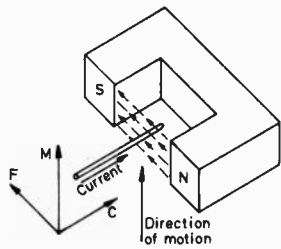

Fig. 1 (left): Fleming's left-hand rule.
To return to the theory (sorry!), the basis of all electric motors is that a conductor carrying a current will try to move when positioned in a magnetic field. Its direction of movement depends on the directions of the flow of current and the magnetic field. Fleming's left-hand rule (see Fig. 1) gives the relationship between these three characteristics. If the left hand is held with the thumb, the first finger and the second finger at right angles to each other, then with the first finger (F) pointing in the direction of the magnetic field and the second finger (C) pointing in the direction of current flow the thumb (M) will point in the direction of motion of the conductor. In practice it's probably not necessary to know this. Suffice it to say that any conductor carrying a current will tend to move at right-angles to a magnetic field. As far as an electric motor is concerned the magnetic field may be provided by a permanent or an electromagnet and the current may be supplied to or induced in the conductor.
Last month we dealt with the main parts of the Spectrum, including the CPU, ROM, ULA and 16K RAM. Fig. 1 showed the main computing circuitry (issue 3 version) while Fig. 4 showed the voltage stabiliser and generator circuits. Fig. 5 this month completes the Spectrum circuit: it covers the tape recorder input and output and sound sections, and the video circuits. You'll find several references to Figs. 1-4 in this month's article: these refer to last month's diagrams.
The above check will have told us that the faulty address is the one beyond the printout address number. We now need to find out which bit at this address is wrong. To do this we put 85 at this address, using the command poke. If you remember your binary you will know that 85 is 01010101. We next read what is in the address, using peek, and see if there's an error. If there is we can tell which i.c. is responsible because we know which data line goes to which i.c. (see Fig. 1). We also know that D0 is the least significant digit - the one at the right-hand end - and D7 the most significant digit, the first figure on the left.